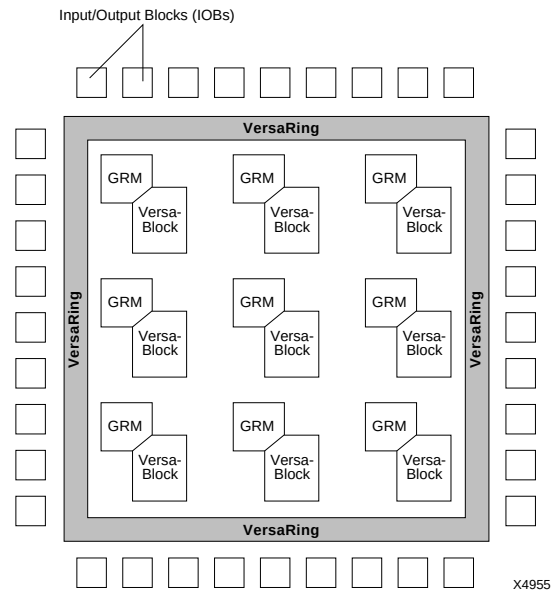
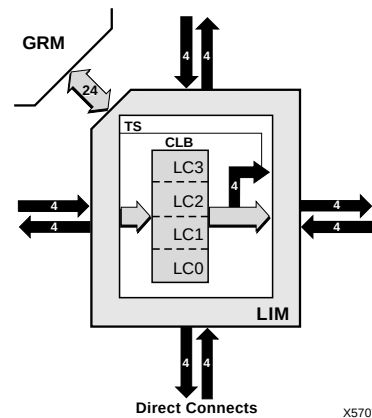
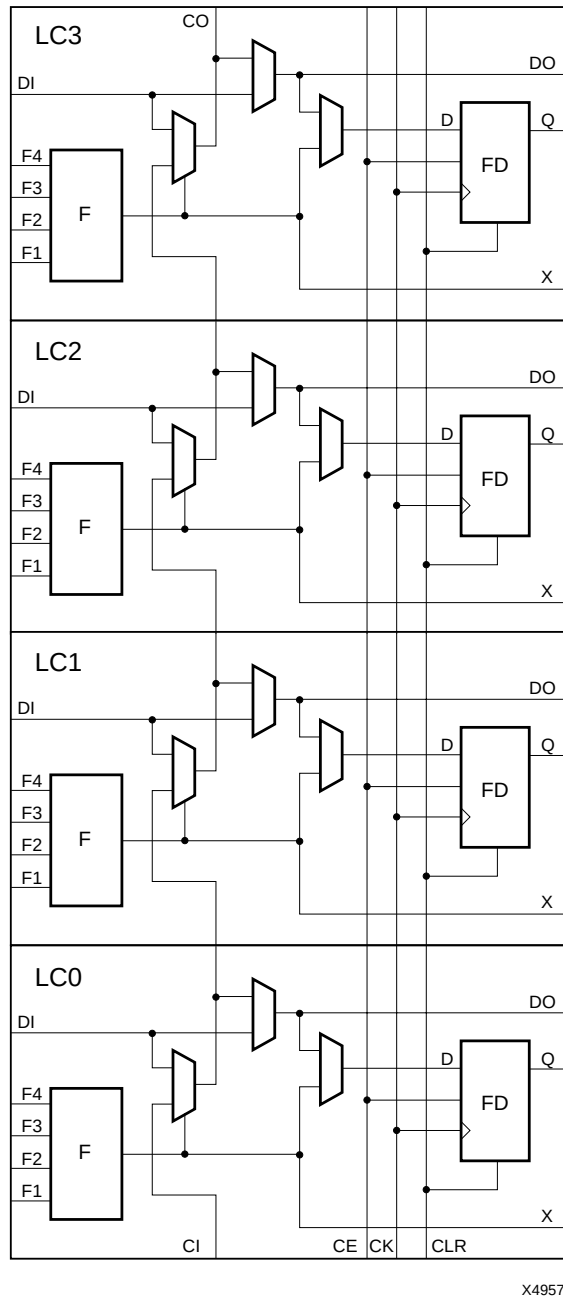

Figure 1: XC5200 Architectural Overview
Figure 2: VersaBlock
Figure 4: Configurable Logic Block
Figure 1 presents a simplified, conceptual overview of the XC5200 architecture. Similar to conventional FPGAs, the XC5200 family consists of programmable IOBs, programmable logic blocks, and programmable interconnect. Unlike other FPGAs, however, the logic and local routing resources of the XC5200 family are combined in flexible VersaBlocks (**Figure 2**). General-purpose routing connects to the VersaBlock through the General Routing Matrix (GRM).
The XC5200 CLB consists of four LCs, as shown in Figure 4. Each CLB has 20 independent inputs and 12 independent outputs. The top and bottom pairs of LCs can be configured to implement 5-input functions. The challenge of FPGA implementation software has always been to maximize the usage of logic resources. The XC5200 family addresses this issue by surrounding each CLB with two types of local interconnect — the Local Interconnect Matrix (LIM) and direct connects. These two interconnect resources, combined with the CLB, form the VersaBlock, represented in Figure 2.
Figure 4 shows the logic in the XC5200 CLB, which consists of four Logic Cells (LC[3:0]). Each Logic Cell consists of an independent 4-input Lookup Table (LUT), and a D-Type flip-flop or latch with common clock, clock enable, and clear, but individually selectable clock polarity. Additional logic features provided in the CLB are:
Four fast feed-through paths from DI to DO are available, as shown in Figure 4. This bypass is sometimes used by the automated router to rewire internal signals. In addition to the storage element (Q) and direct (DO) outputs, there is a combinatorial output (X) that is always sourced by the Lookup Table.